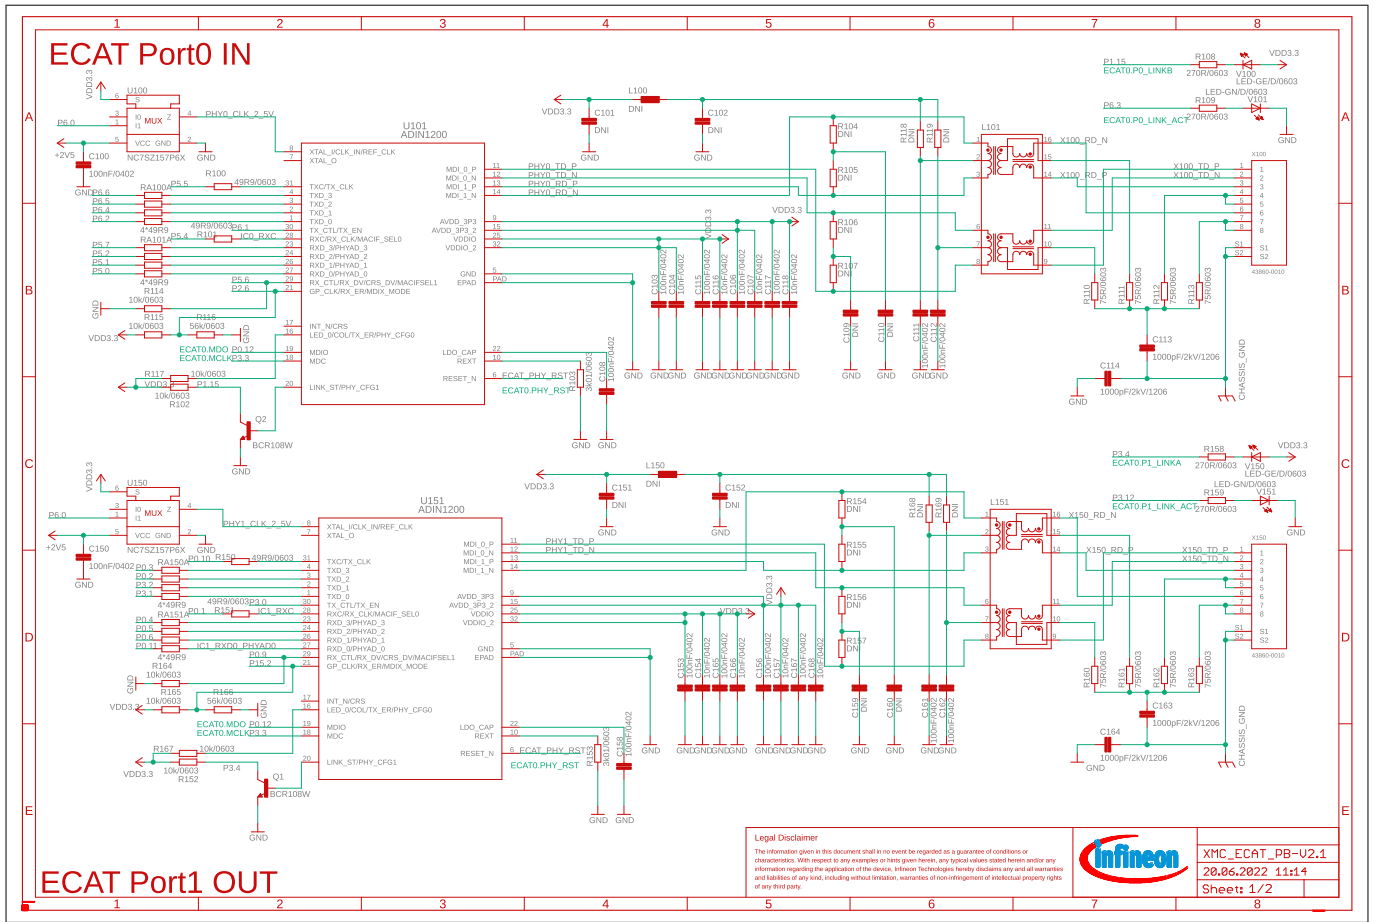

Figure 16 XMC™ EtherCAT Phy Board Schematic: Input and Output Phy (see Revision 1.4)
- Figure 16: XMC™ EtherCAT Phy Board Schematic: Input and Output Phy (see Revision 1.4)